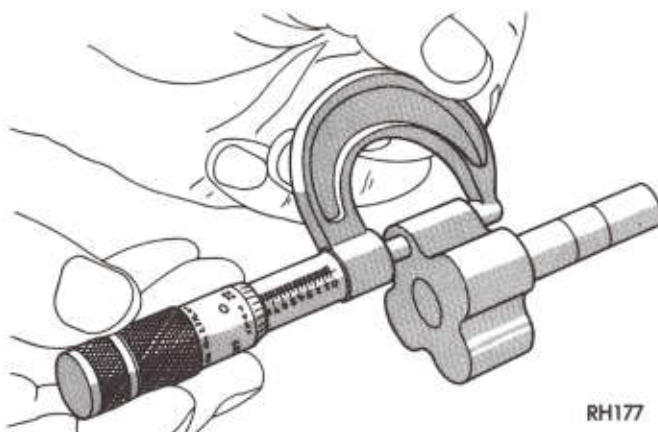

Fig. 59—Measuring Inner Rotor Thickness
(4) If inner rotor measures .825 inch (20.9mm) or less replace inner rotor and shaft assembly (Fig. 59).